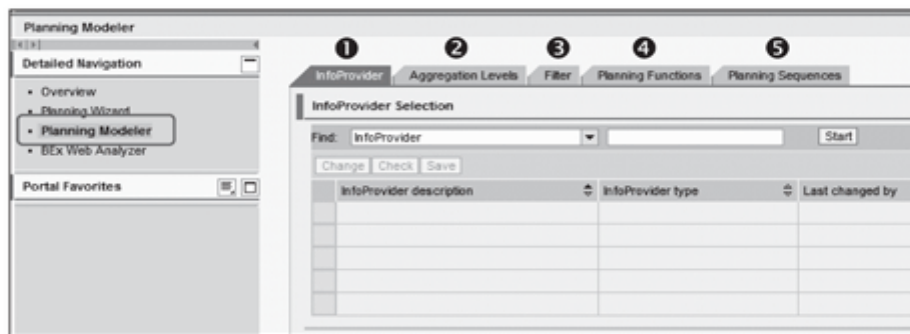

Figure 12.7 Planning Modeler Tabs
The Planning Modeler, as shown in Figure 12.7, consists of five different tab pages. These tabs are explained here:
- ▶ **InfoProvider:** On this tab page, you can select the InfoProvider for the planning application. You can also define the characteristic relationships and data slices (❶ of Figure 12.7).
- ▶ **Aggregation Level:** This tab page allows you to define aggregation levels on selected InfoProviders (❷).
- ▶ **Filter:** You can create planning filters on selected aggregation levels on this tab page (❸).
- ▶ **Planning Functions:** This tab page is used to define different planning functions based on the selected aggregation level (❹).
- ▶ **Planning Sequences:** This tab page allows you to create different planning sequences, where you can define an execution sequence for different planning functions (❺).